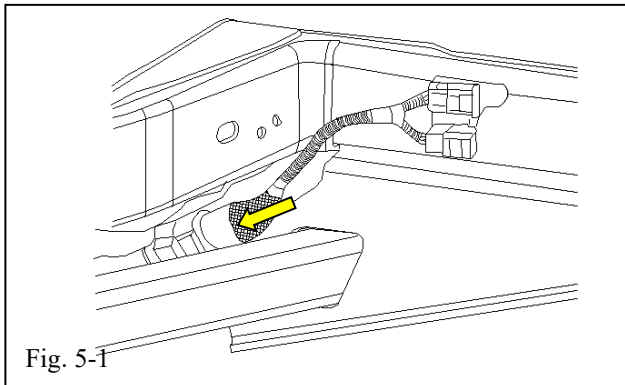

Fig. 5-1
- (a) Plug the wire harness pigtail back into the connector plug housing (Fig. 5-1).